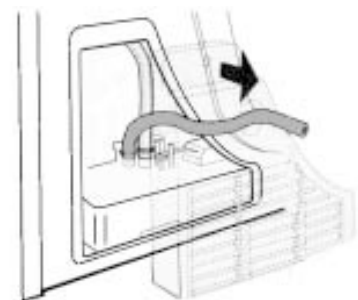

Fig. 3
4. Position the hose on the free inlet and reposition the clamp (Fig 3).
5. Position the hose provided on the front inlet and clamp it into place (Fig 3).
6. Remove the cover from the hole in the vent cover and insert the hose through the hole (Fig 3).